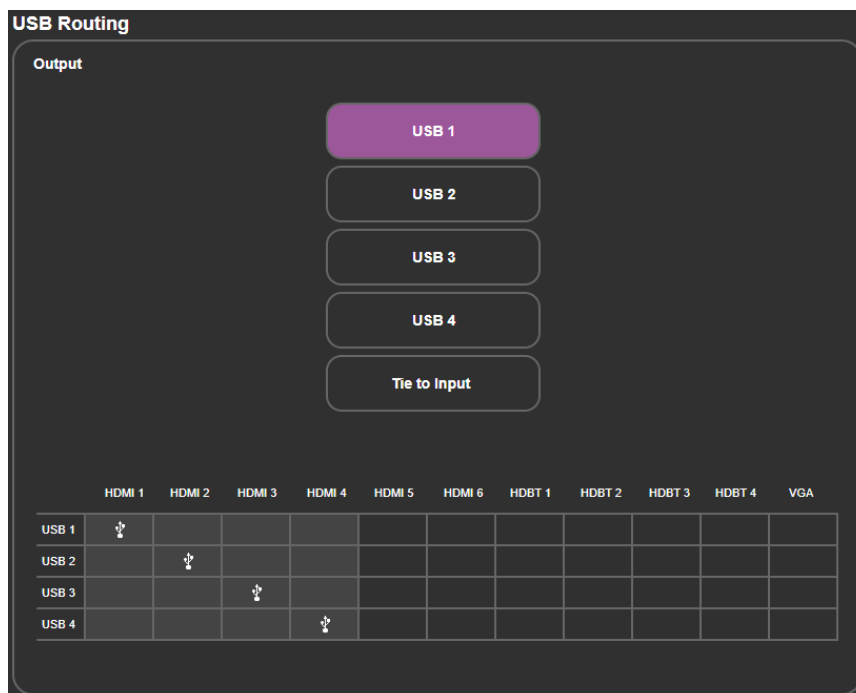

Figure 27: The USB Routing Page
1. In the Navigation pane, click **USB Routing**. The USB Routing page appears (Figure 27).